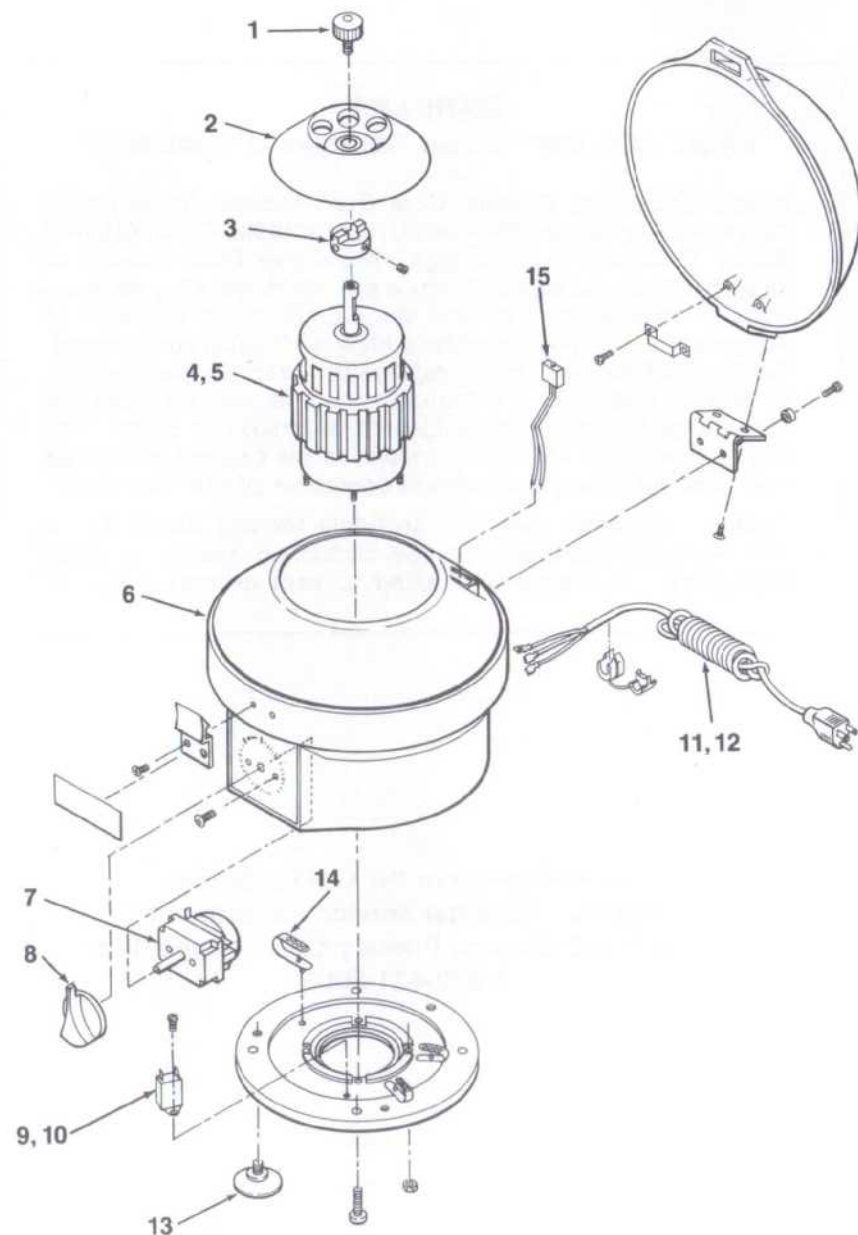

Figure 5-6. Compact II Centrifuge, Exploded View.
• Centrifuge — See Item # in Figure 5-6